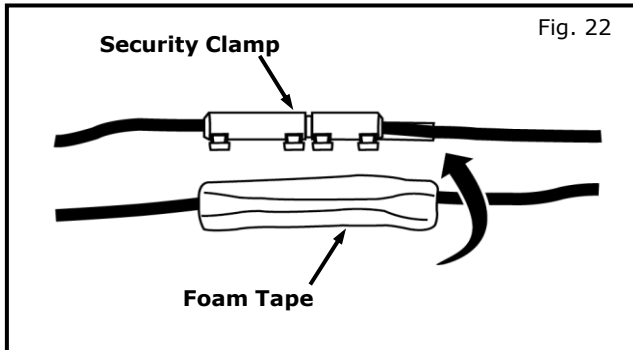

Fig. 22
10.16) Secure barrel connectors using two security clamps. Place blue barrel connectors into one security clamp and lock closed. Place black barrel connectors into second security clamp and lock closed. Figure 22
10.17) Apply one piece of foam tape over each security clamp. Figure 22